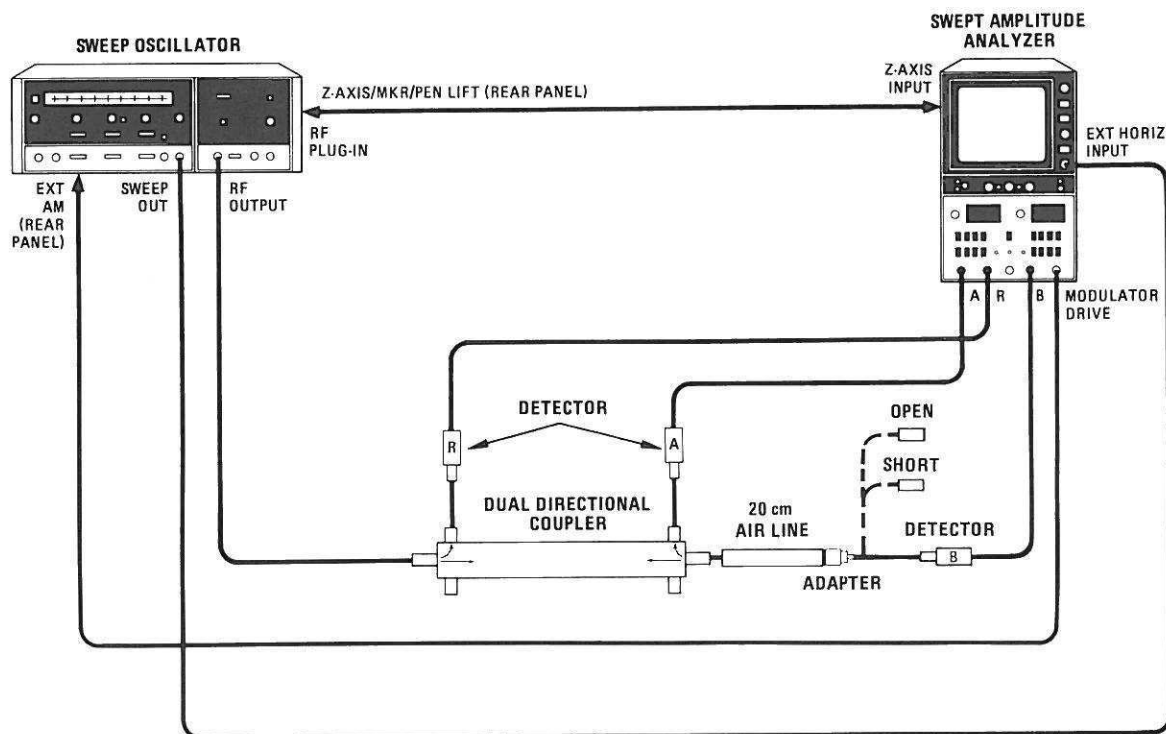

Figure 4-1. Return Loss Test Setup for Measurement to 18 GHz
1. Connect the equipment as shown in Figure 4-1 with the short connected. For measurements below 100 MHz two directional bridges connected as a dual directional coupler are used. For measurements above 2 GHz a 20 cm air line is connected between the test port of the directional coupler and the 11664B Detector under test.